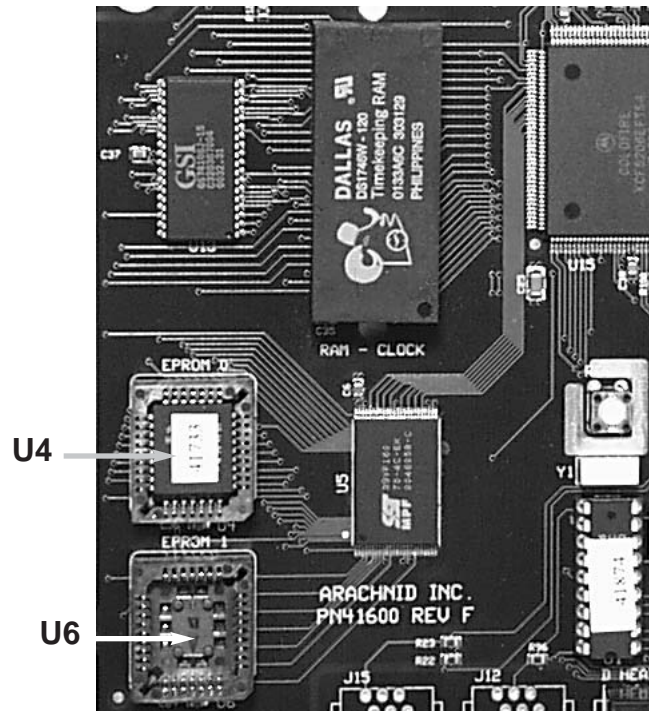

Figure B1 - Mainboard Detail
2. Insert a blank FLASH IC (or a FLASH IC that needs to be updated) into IC socket U6. Make sure that it is in the socket with pin 1 in the proper position. (See **figure B1**)